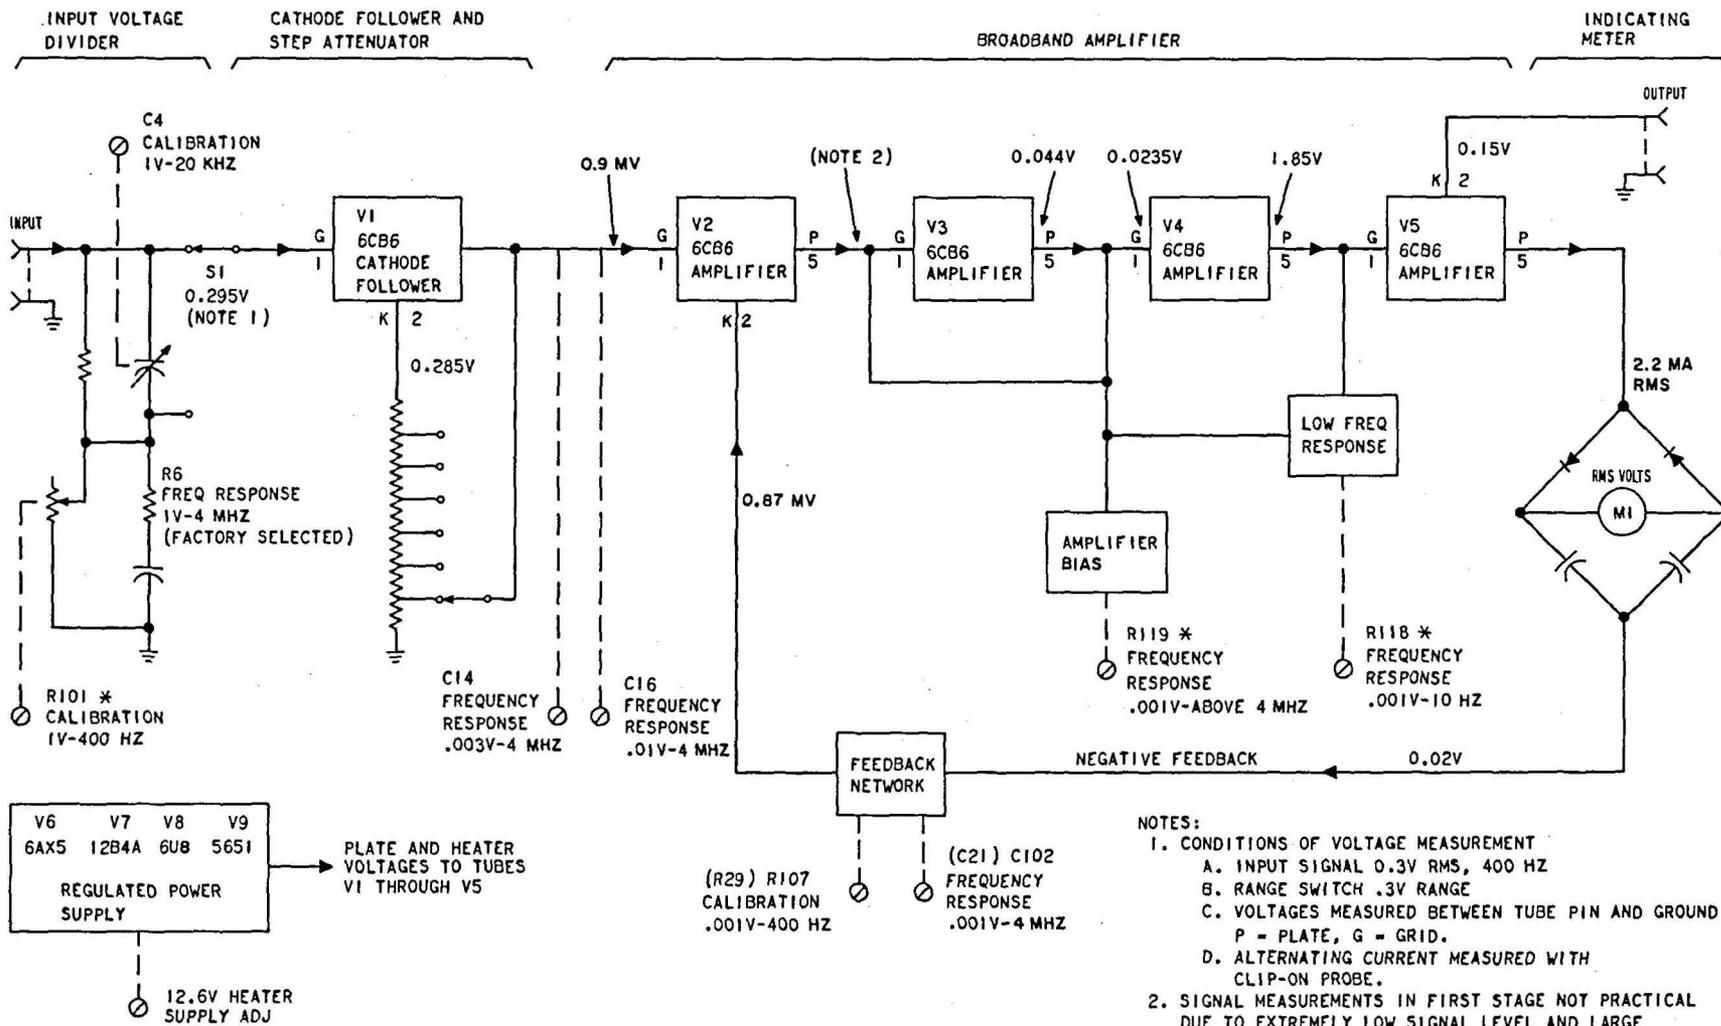

Fig. 5—Basic Circuits of the VTVMs
4.01 The basic circuits of the VTVMs are shown in Fig. 5. These circuits consist of an input